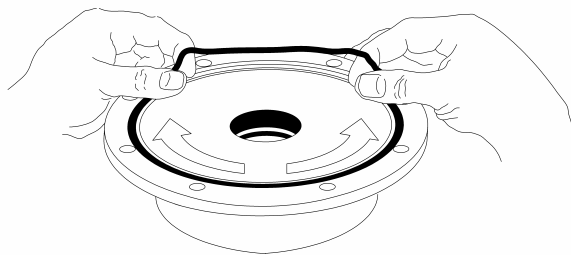

Figure 10 – Head O-ring Installation
5. Install a new head O-ring (72) in the groove on the inside face of the head (20). Lay the O-ring flat and start in on one side of the groove, stretching ahead with the fingers, as shown in Figure 10.